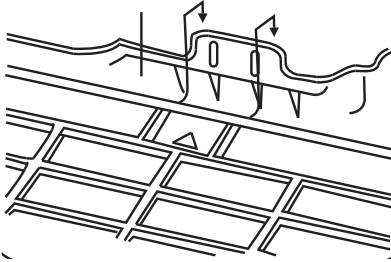
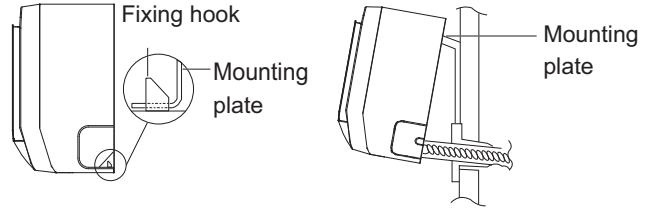

Fig. 14 – Hanging Indoor Unit
Fig. 17 – Hang Indoor Unit
4. Hang indoor unit on upper hooks of wall mounting plate (as shown in Fig. 14 and Fig. 17).